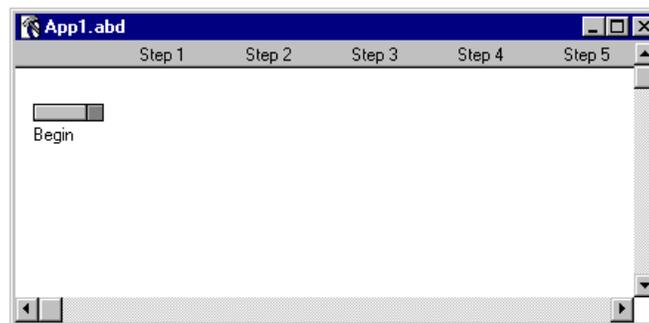

Figure 3-4 New Application Design Window
4. A new application design window opens (Figure 3-4) with one Input Handler ("Begin" Handler) and 64 empty steps.